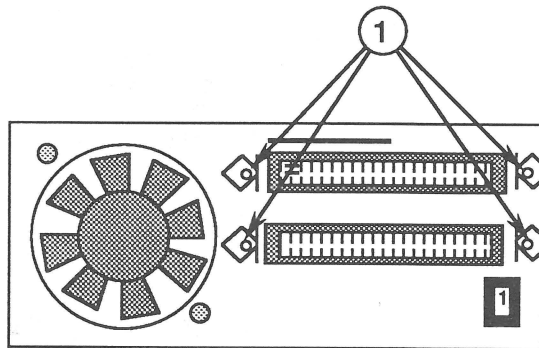

FIGURE 22
3. Remove the four screws (Figure 22, #1) that secure the HDA-to-case cable to the frame, and lift the cable free.
1. Lace the fan cable between the HDA-to-case cable and the two cable connectors. See Figure 22.
3. Replace the four screws (Figure 22, #1) that secure the HDA-to-case cable to the metal frame.